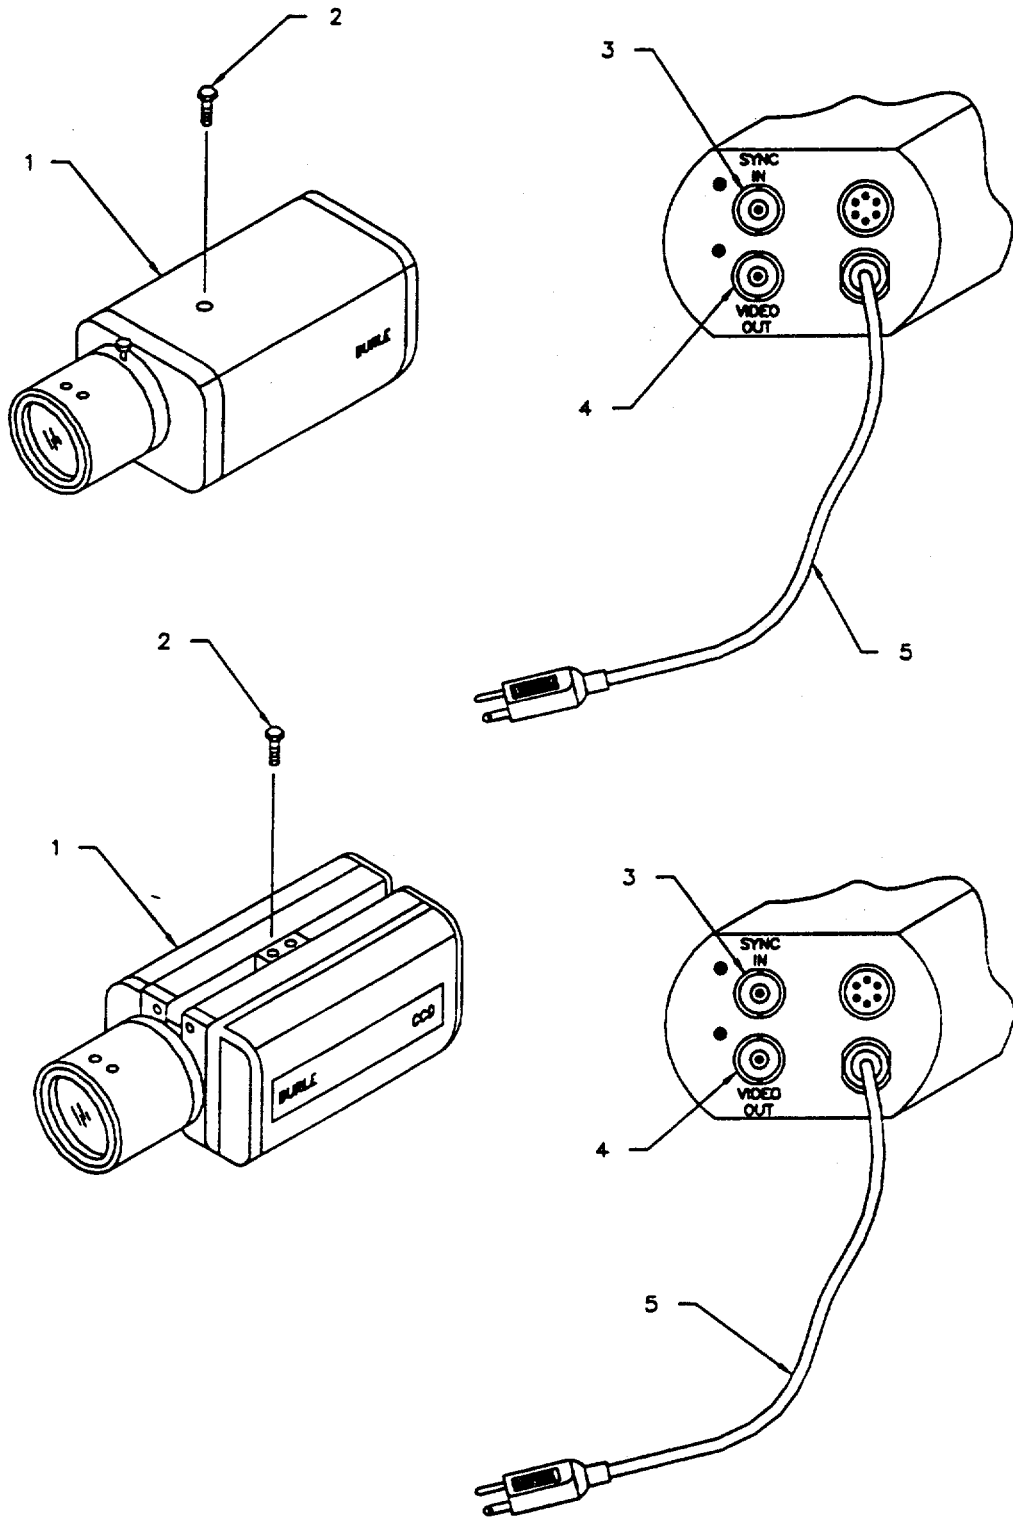

Figure 3-49. Removal and Replacement of CCTV 1/2" Camera (Interior) and 2/3" Camera (Exterior)
**3-96. REPLACE CLOSED CIRCUIT TV CAMERA 1/2 IN. (INTERIOR). (Figure 3-49).**